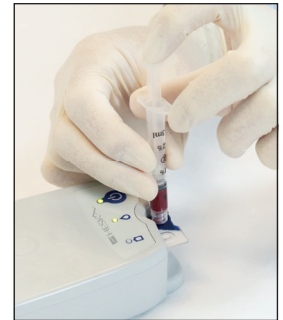

Figure 3
- While maintaining downward pressure, use the index finger of your other hand to steadily depress the syringe plunger smoothly until prompted to stop, approximately 1 second (Figure 3).